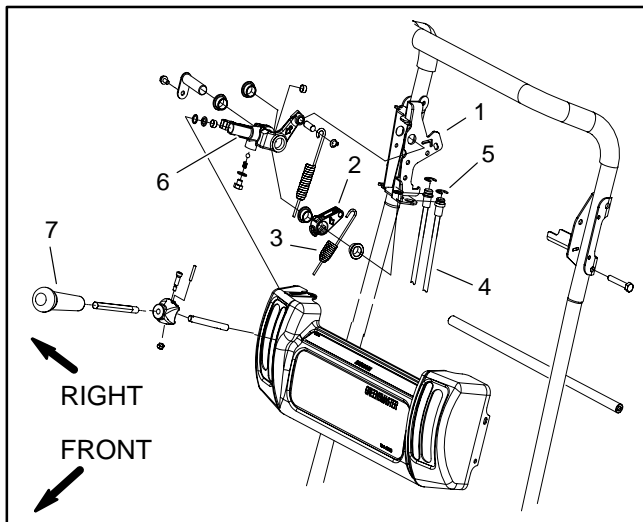

Figure 9
4. Remove reel control cable from the reel control lever as follows (Fig. 9):
1. Secure reel control cable to the reel control lever (Fig. 9):